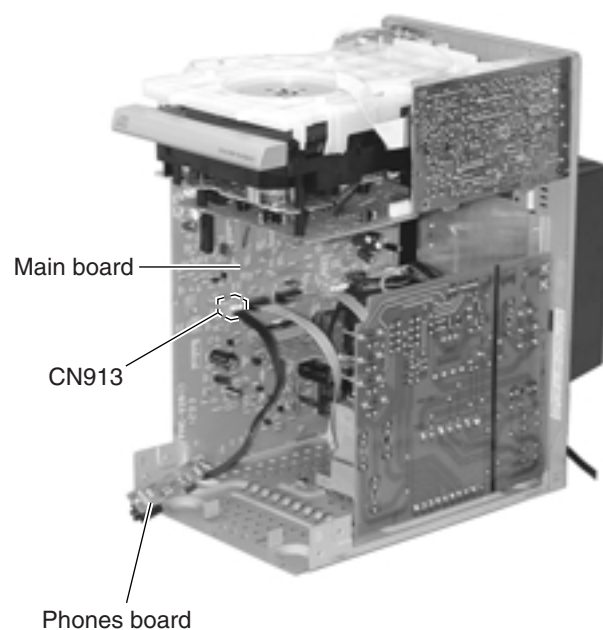

Fig.17
■ Removing the Phones board (See Fig.17)